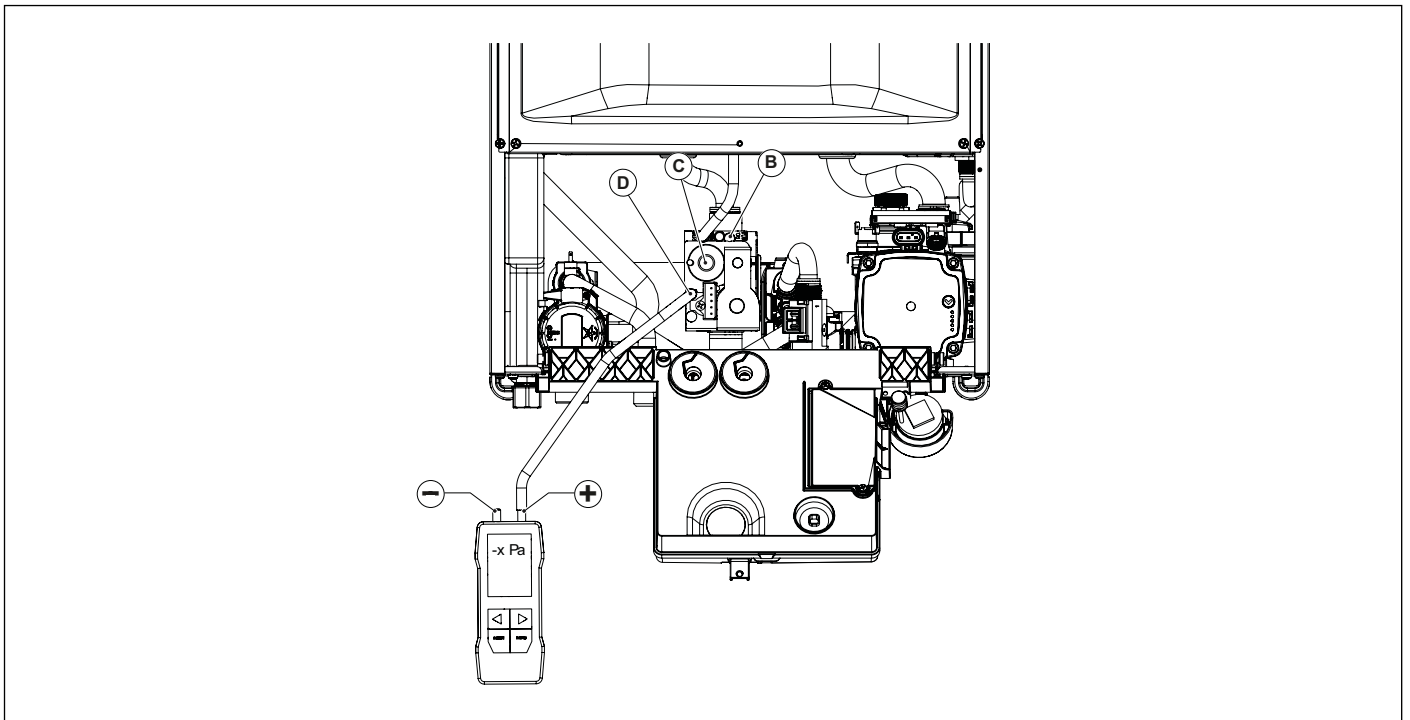

Fig. 26 Offset pressure adjustment
- Open the screw of the offset pressure pick-up point **D** and connect it to the positive input (\*) of the differential pressure gauge (see Fig. 26 Offset pressure adjustment).